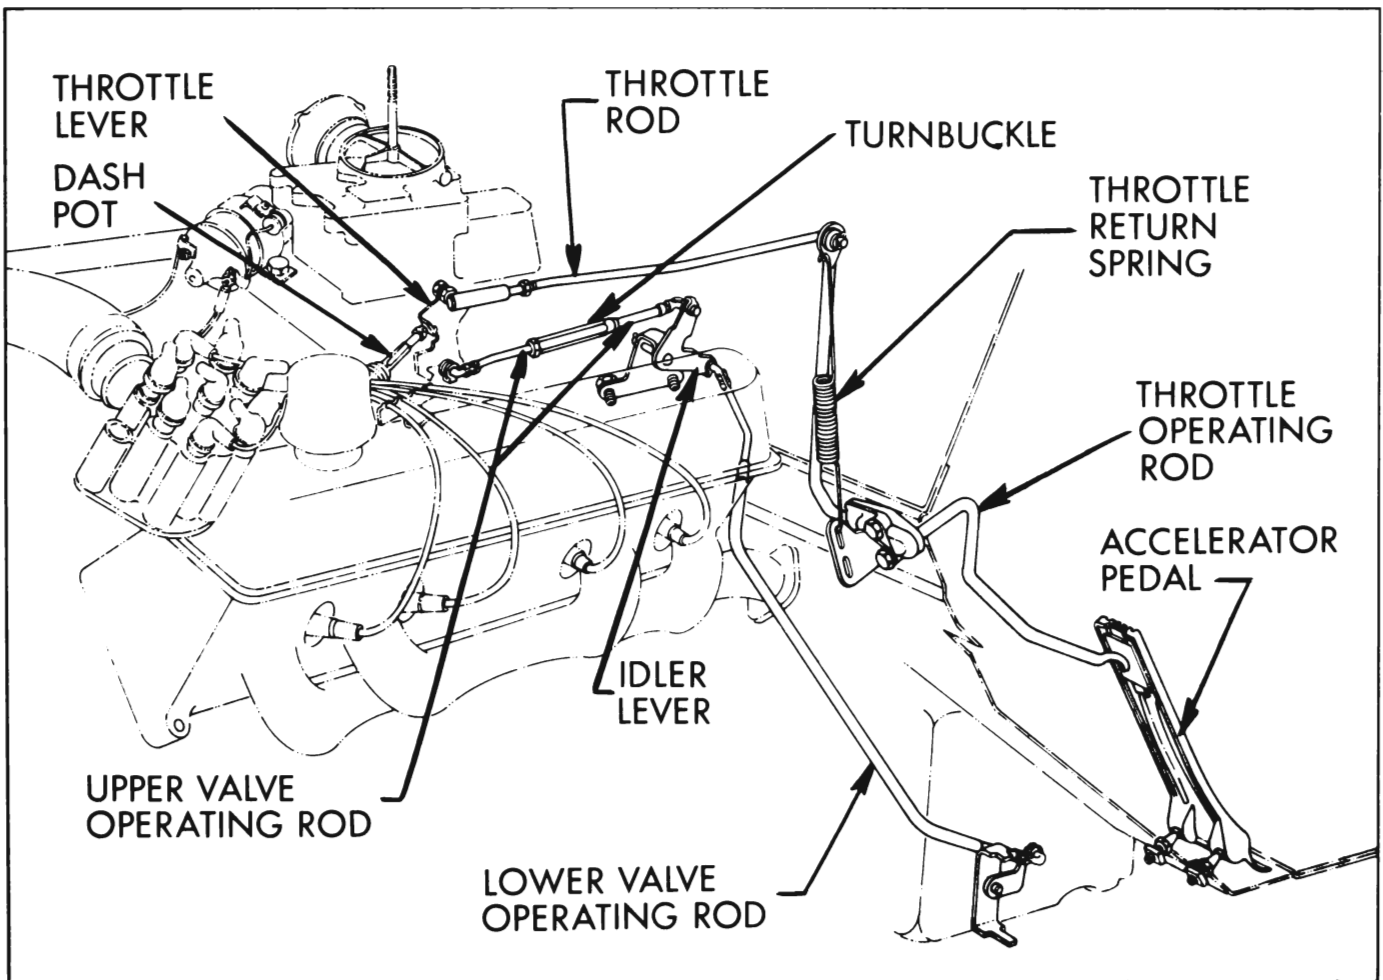

Figure 3-14—Throttle and Transmission Control Linkage (Automatic Transmission)
4. Disconnect rear end of throttle rod from throttle operating lever. See Figure 3-14.
short that stop in transmission prevents carburetor from reaching wide open throttle. See Figure 3-14.